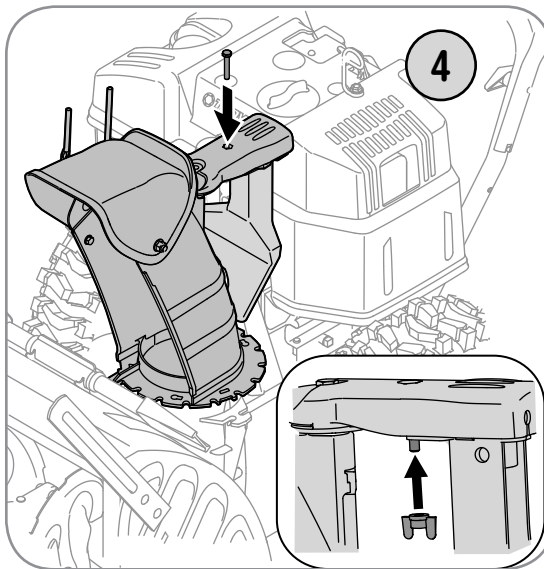

Figure 4
4. Finish securing chute control assembly to chute support bracket with wing nut and hex screw removed earlier. See Figure 4.